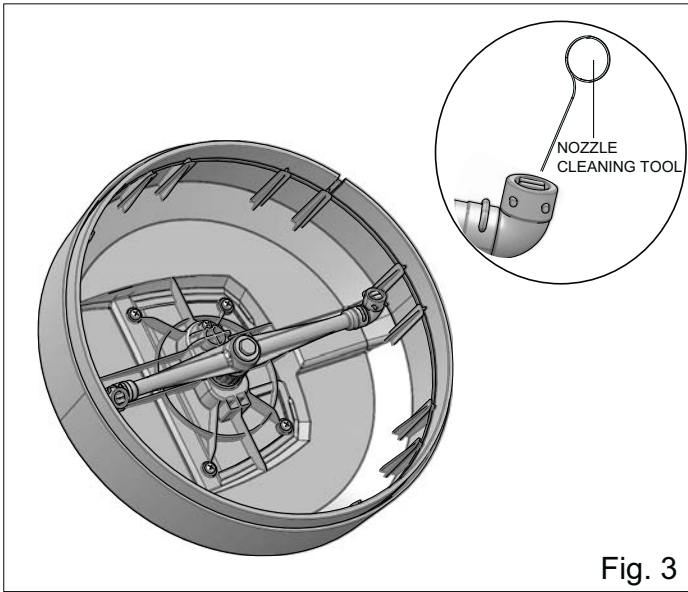

Fig. 3
- If striping or swirl marks occur, slow your pace. If striping or swirling continues, the surface cleaner nozzle(s) may be clogged. Disconnect surface cleaner from pressure washer spray wand before servicing. Using a straightened paper clip or nozzle cleaning tool (not provided), free any foreign materials clogging or restricting the nozzle. (See Fig.3)